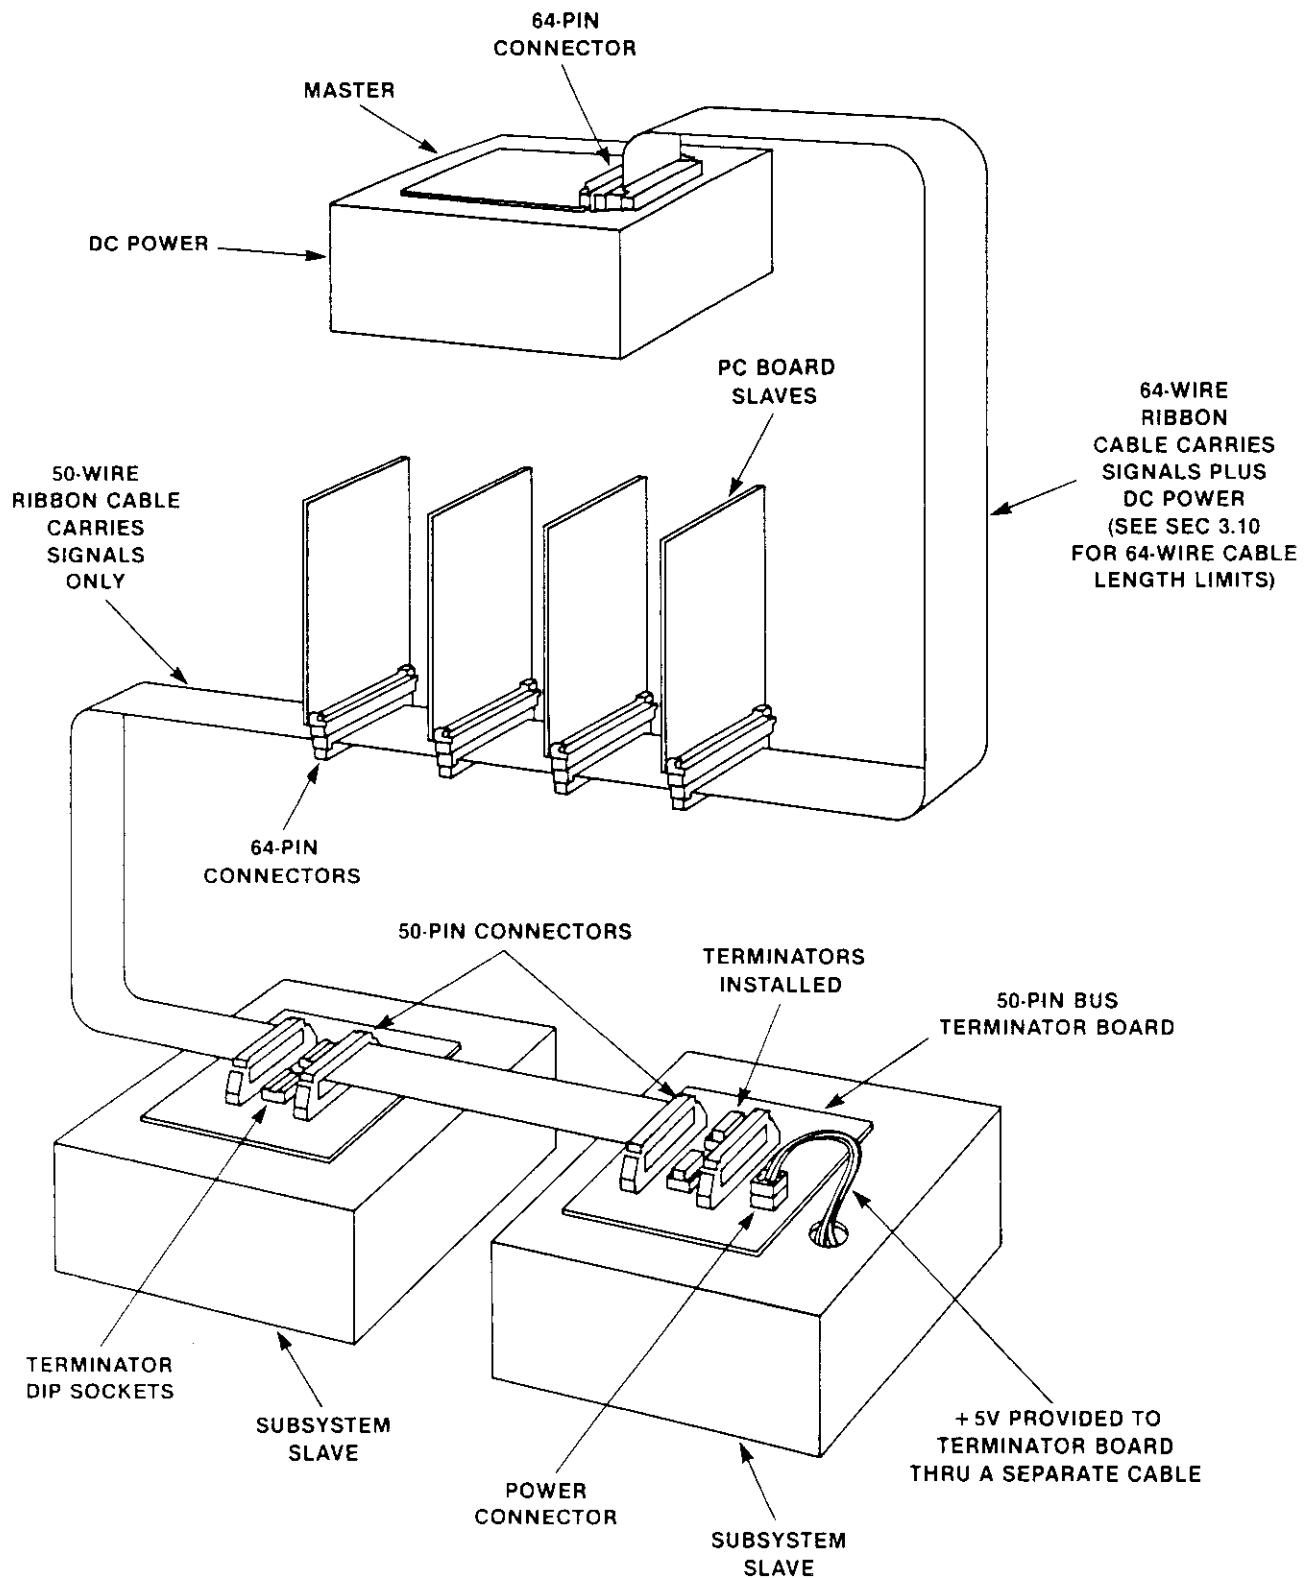

FIGURE 1-1. Typical I/O Channel Configuration
| FIGURE 1-1. Typical I/O Channel Configuration ..... | 1-3         |
Figure 1-1 illustrates how a system might be configured using a ribbon cable bus I/O Channel. The bus master is typically a computer, but may also include a DMA controller for transferring blocks of data to or from a slave device at high speed.
As shown in Figure 1-1, there are two basic types of slaves on the I/O Channel. Slave Printed Circuit (PC) boards have 64 pin ribbon cable connectors and plug into a 64-pin connector which is crimped onto the ribbon cable. The preferred form factor for these boards is the DIN standard. These boards are powered through their 64 pin connectors and may draw +5V and +12V from the bus. The length of the 64 wire ribbon cable running from the power source (usually the master) to the powered slave boards is subject to the limitations described in Figure 3-2.